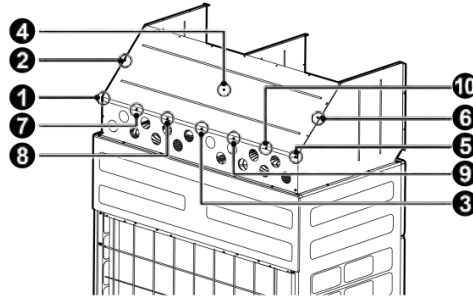

Fig. 3.24
Step 3: installation of Top Plate 5. Please refer to Fig 3.24 for the installation location and sequence of screws.